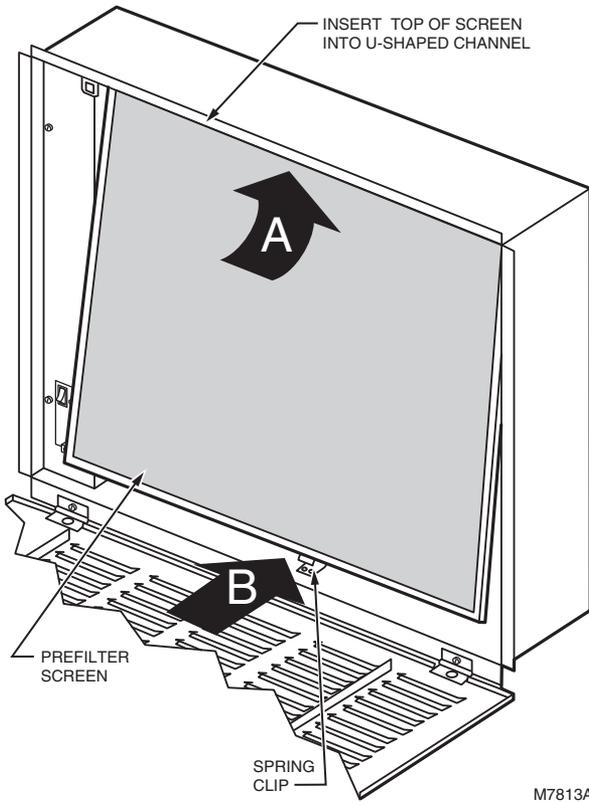

Fig. 7. Replace the air cleaner components.
3. Slide the prefilter into the U-shaped channel and push the other end past the spring clip (see Fig. 7).